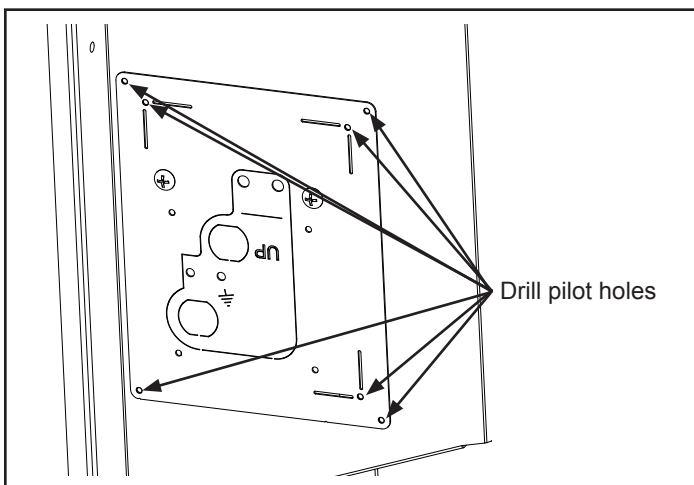

Figure 7
Drill (7) pilot holes in hopper using 1/8" drill bit, Figure 7. After holes are drilled, use a square to finish the scribe lines on the hopper between holes.